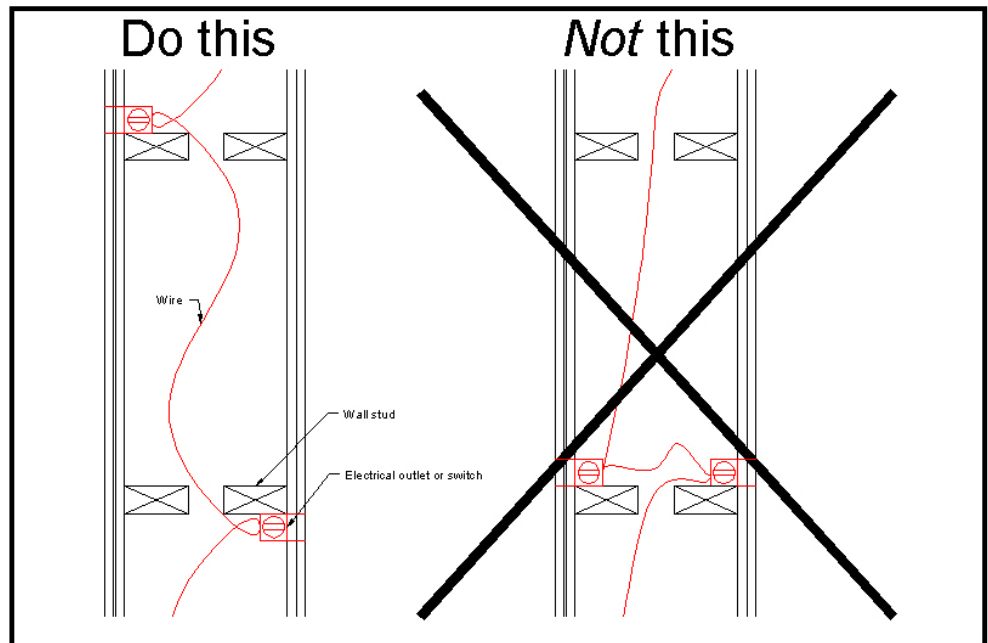

Figure 3.6 - Placement of electrical boxes, e.g., outlets and switches
- Never mount electrical boxes or connector panels back to back; always stagger them as shown in the *Figure 3.6*. Seal the holes your wires go through, or (preferably) run wire through conduit, stuffing foam or insulation in the ends to help seal it. Isolating the conduit from the structure with *SheetBlok* or hanging it with resilient hangers can really offer some improved isolation. Remember: *Sound control is a game of inches.*TM